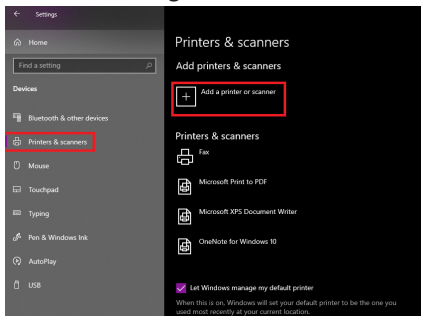

Figure 20
3. Select **Printers & Scanners** on the left pane, then click **Add a printer or scanner**. (Figure 20)